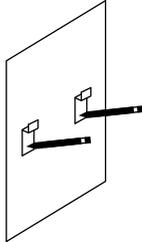

Fig 3
1. Mark where the 2 brackets will be fixed and if the hood is using back outlet mark and cut-out the hole (Fig 3).